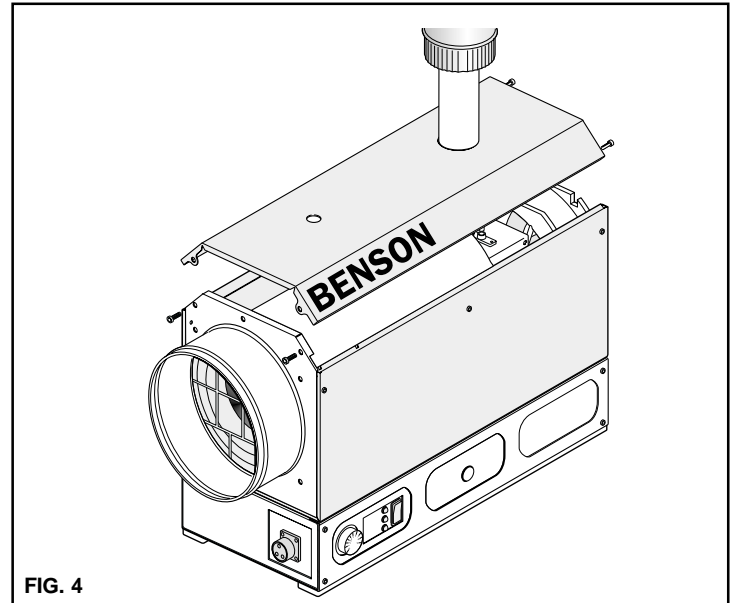

FIG. 4
- 1:2 REMOVE THE FLUE COVER (FIG. 4) BY LIFTING OVER THE FLUE
- 1:3 REMOVE THE TOP COVER (FIG. 4), BY REMOVING THE 4 ALLEN SCREWS